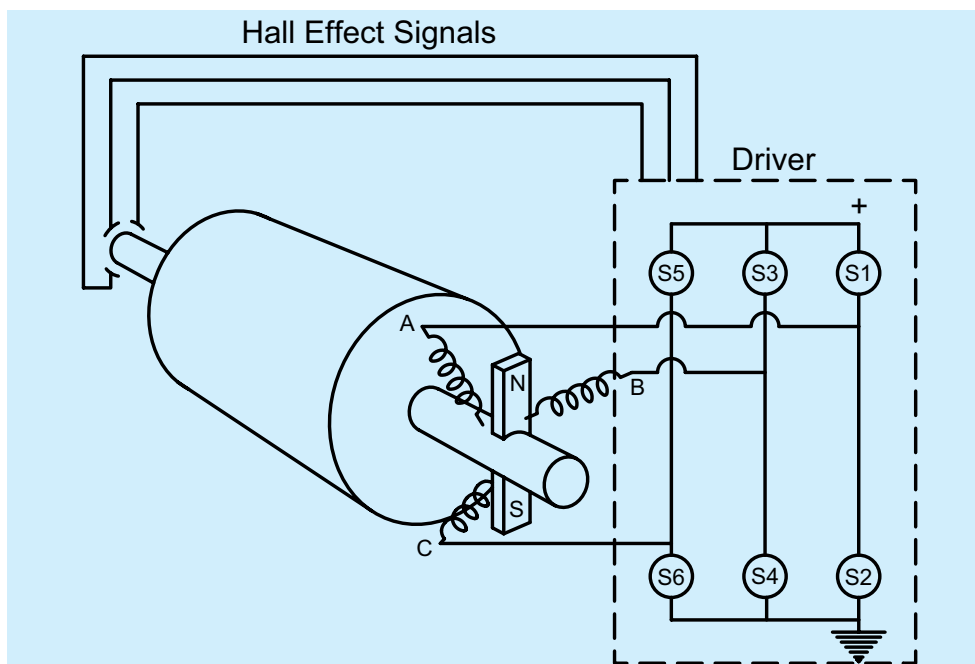

FIGURE 4
Figure 4 illustrates the sequential steps in the commutation of a 3 phase, bi-polar system. Closing transistors (1) and (4) will enable current to flow through phase A and B. The permanent magnet rotor will then align itself in a zero torque, preferred position. If (1) is opened and (5) closed, current will flow through phases B and C, and the rotor will move 120 electrical degrees. Similarly, opening (4) and closing (2) will cause the rotor to move another 120 electrical degrees. (Note that the current through phase A is now flowing in the direction opposite the one at the start of this exercise.)
Now, imagine the rotor in Figure 4 resting in its zero torque position (i.e., the 180 electrical degree point on Graph